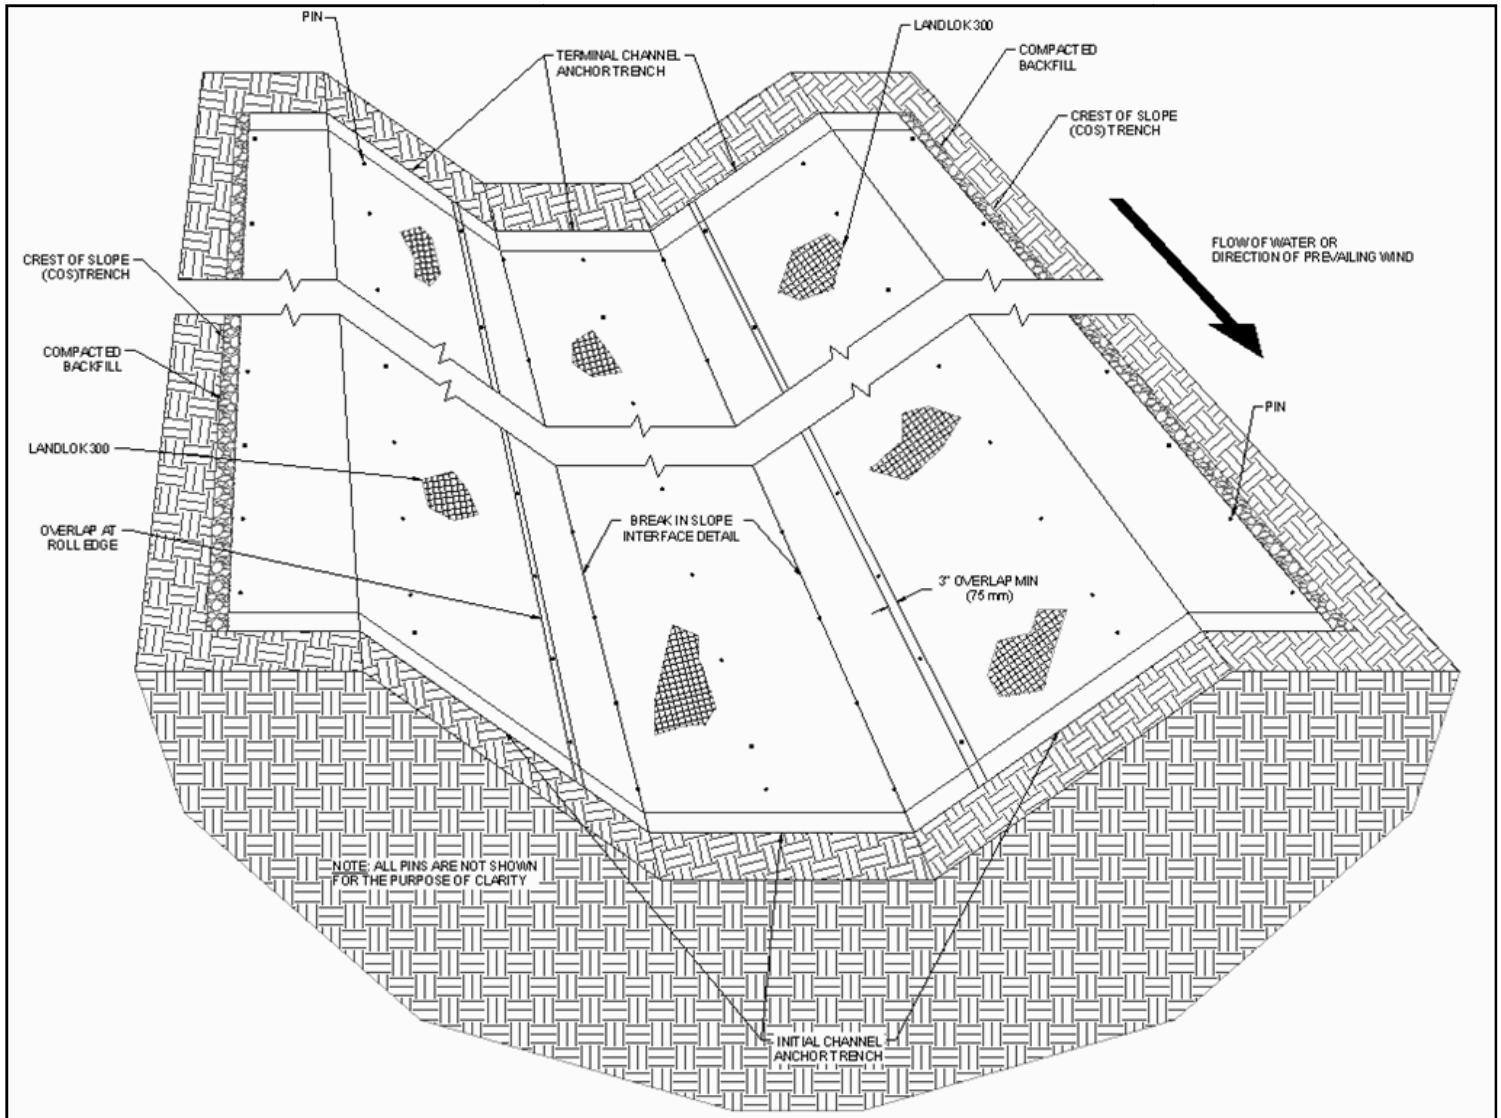

Figure 18: Completed Channel Isometric View
18. At a minimum, Landlok 300 panels should be pinned entirely across the channel surface, pins should be installed in the trenches, and the trenches should be backfilled and compacted at the end of each day to minimize rework in the case of a major rain event. Specific project conditions may warrant further evaluation of installation order for ease. An example isometric view (Figure 18) of a channel armored with Landlok 300 can be seen below for overall reference. Consult Propex Engineering Services at 800.621.1273 with any questions that you may have.